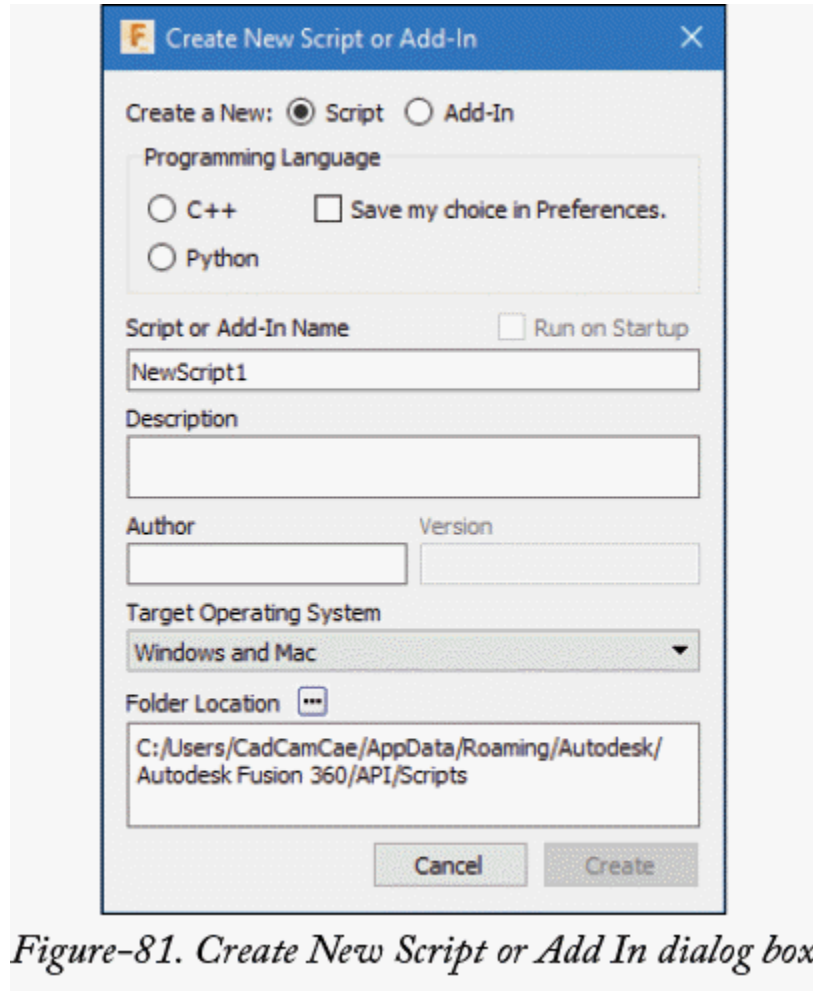

Figure-81. Create New Script or Add In dialog box
- To create a script or Add-Ins, click on the **Create** button from **Scripts and Add-Ins** dialog box. The **Create New Script or Add-In** dialog box will be displayed; refer to Figure-81.